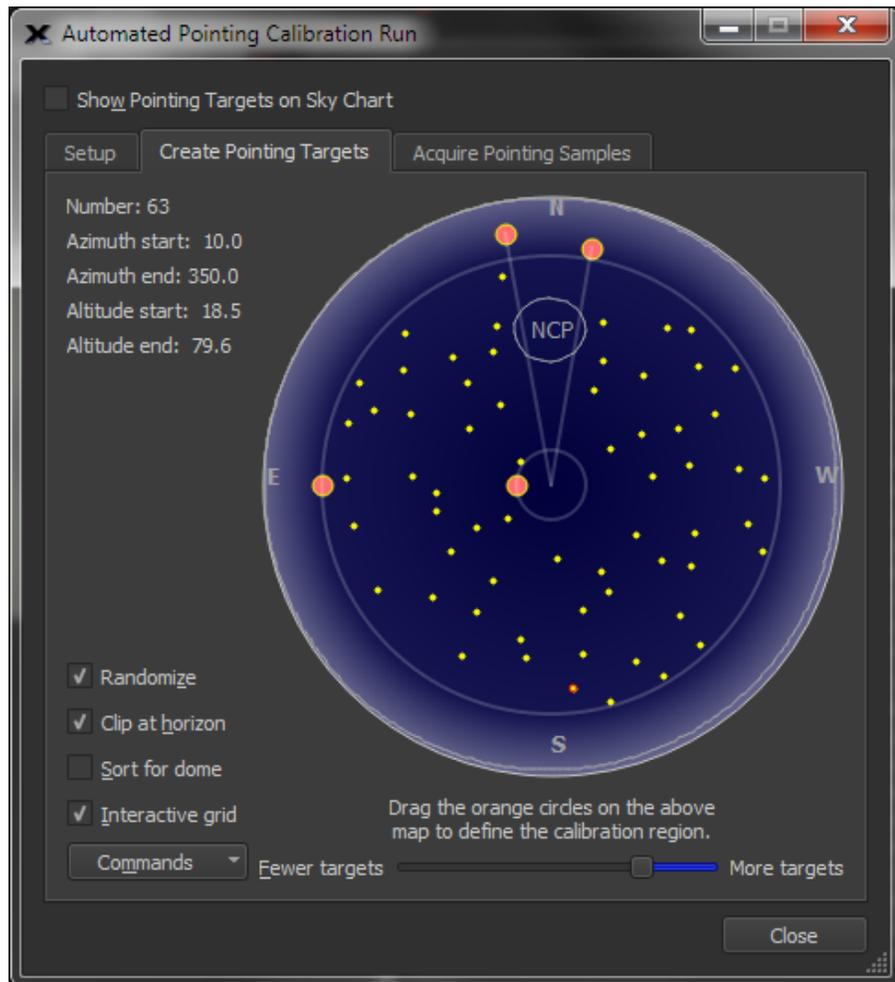

Figure 22: Create pointing targets for a recalibration.
3. Adjust the **Fewer/More Targets** slider until there are 15 or more targets. The total number of targets is displayed next to the **Number** text near the top left of the window (Figure 22).